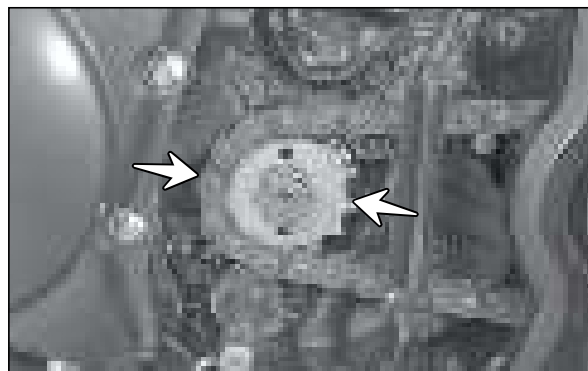

Fig. 3.108
- Pull out the sprocket engine along with drive chain assembly from shaft drive. (Fig. 3.108)